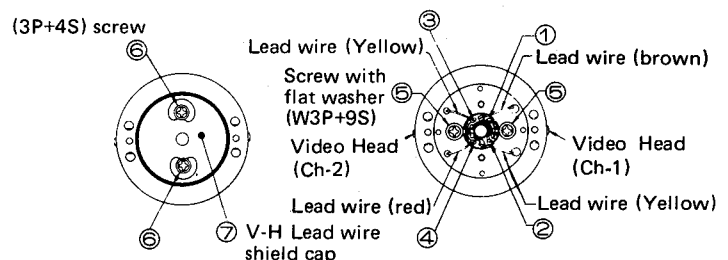

Figure 27.
- 5) The height of the AC head should be positioned with regard to the tape as shown in figure 27.
- 1) Fit a replacement drum as shown in figure 27, taking care to correctly position the respective leads.